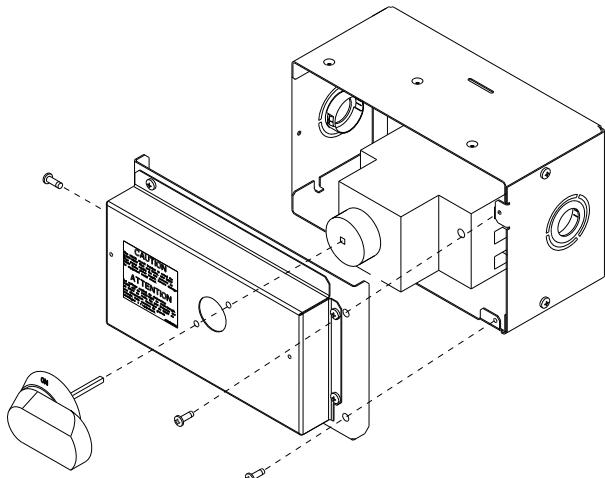

Fig. 31 — HACR Handle and Shaft Assembly
2. Remove (3) cap head screws that secure the HACR enclosure front cover — (2) on the face of the cover and (1) on the left side cover. See Fig. 31.
5. Insert the shaft all the way with the cross pin on the top of the shaft in the horizontal position. See Fig. 31.
9. Secure the handle to the painted cover with (2) screws and lock washers supplied.
10. Engaging the shaft into the handle socket, re-install (3) hex screws on the HACR enclosure.